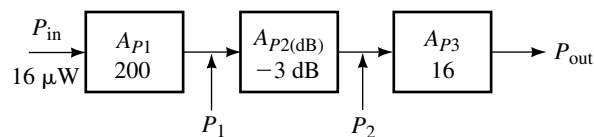

FIGURE 22–44
- 17. Calculate the power levels (in dBm) at the output of each of the stages of the system shown in Figure 22–44. Solve for the output power (in watts).
- 18. Calculate the power levels (in dBm) at the indicated locations of the system shown in Figure 22–45. Solve for the input and output powers (in watts).
- 19. Given that power $P_2 = 140 \text{ mW}$ as shown in Figure 22–46. Calculate the power levels (in dBm) at each of the indicated locations. Solve for the voltage across the load resistor, R_L .